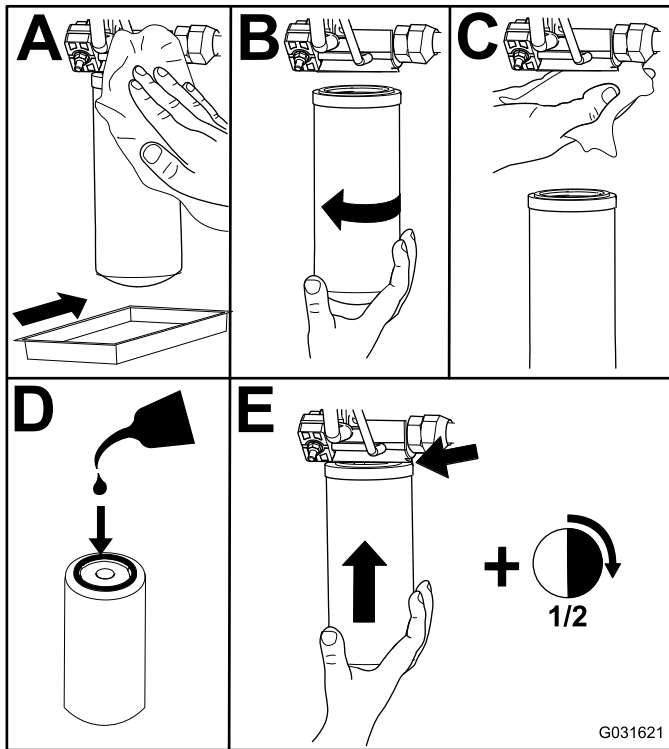

Figure 74
2. Replace the hydraulic filters (Figure 74).